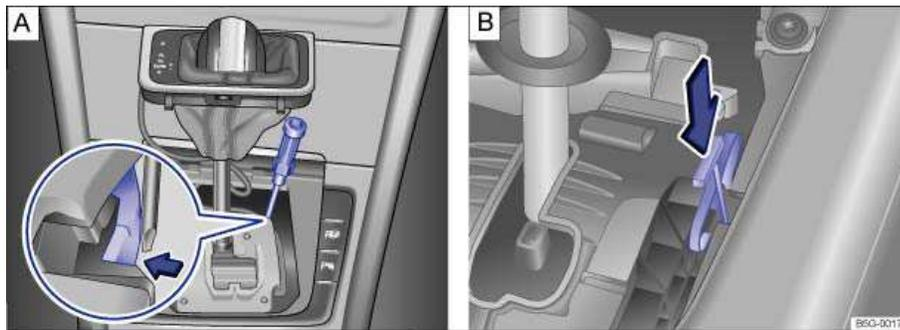

Fig. 183 Releasing the selector lever lock (Versions A and B).
- With the screwdriver from the vehicle tool kit, carefully push the release lever ⇒ fig. 183 A in the direction of the arrow and hold it in this position.
- Push the release lever ⇒ fig. 183 B in the direction of the arrow and hold it in this position.